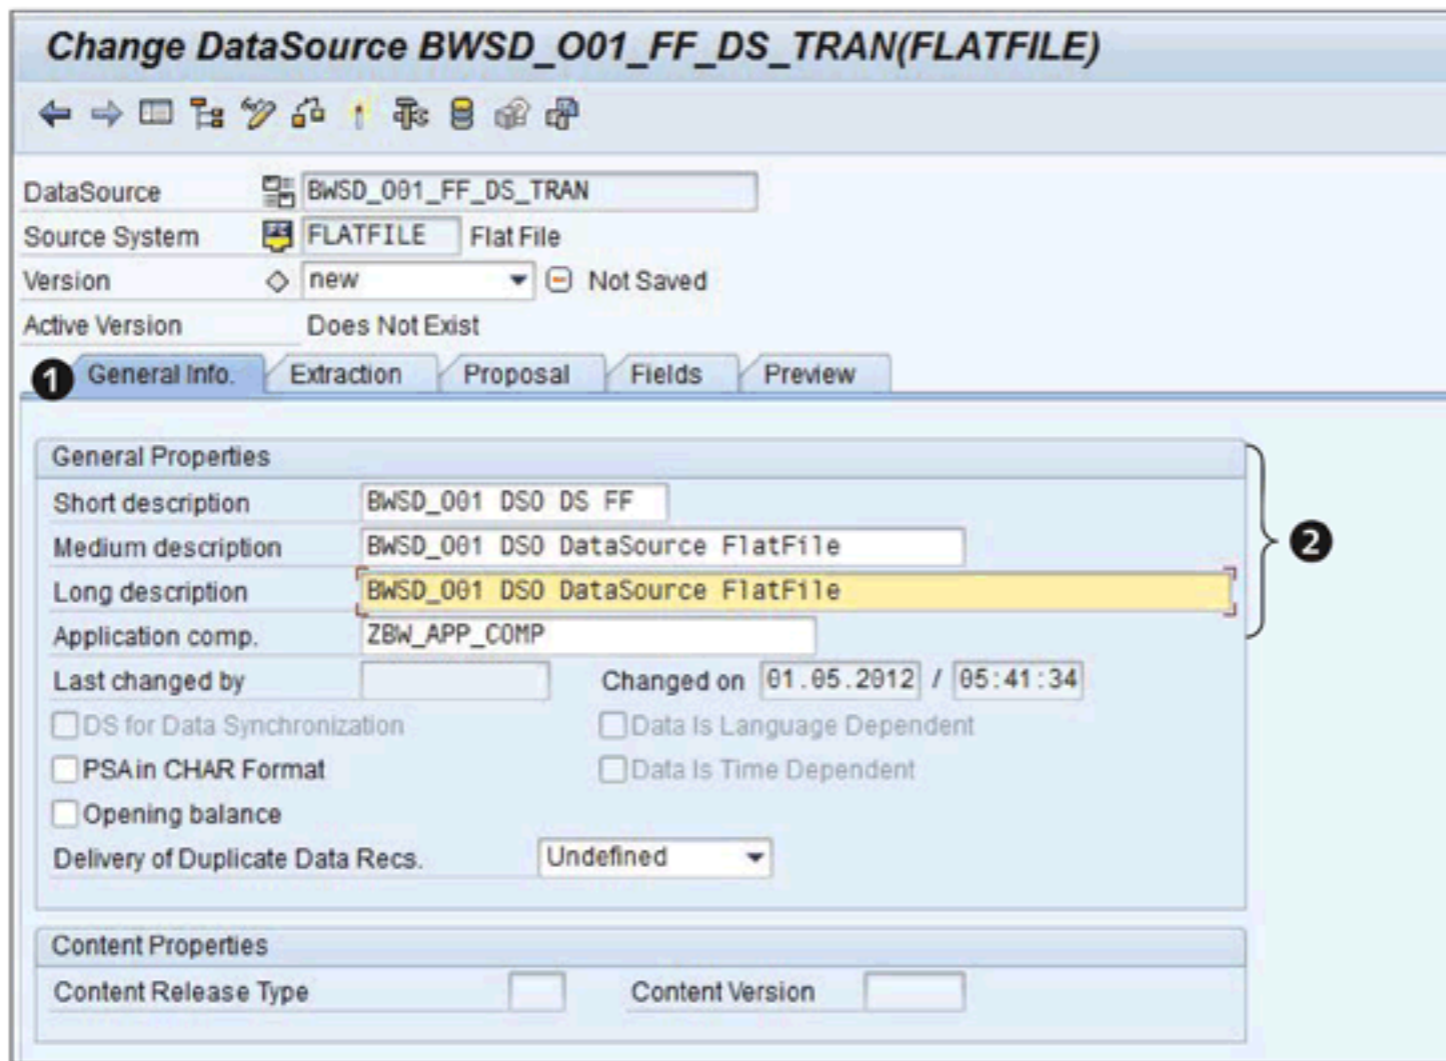

Figure 7.51 Transaction DataSource Creation: General Tab
In the GENERAL INFO tab (❶ of Figure 7.51) of the CHANGE DATASOURCE screen, enter the short/medium/long description (❷).